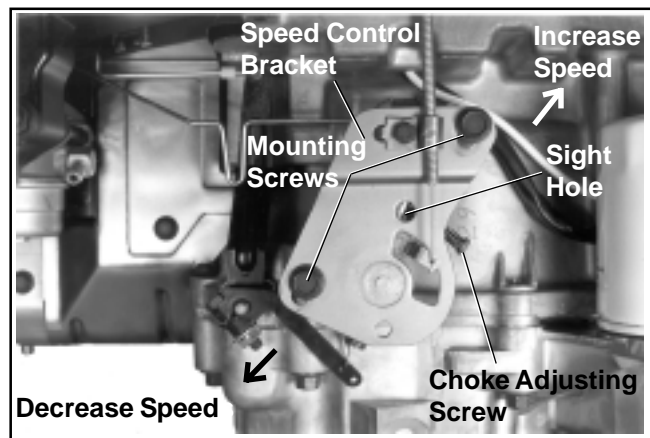

Figure 5-22. Adjusting High Idle Speed.
- Loosen the speed control bracket mounting screws. Move the bracket up or down until the desired high idle speed is reached. See Figure 5-22. Check the speed with a tachometer.